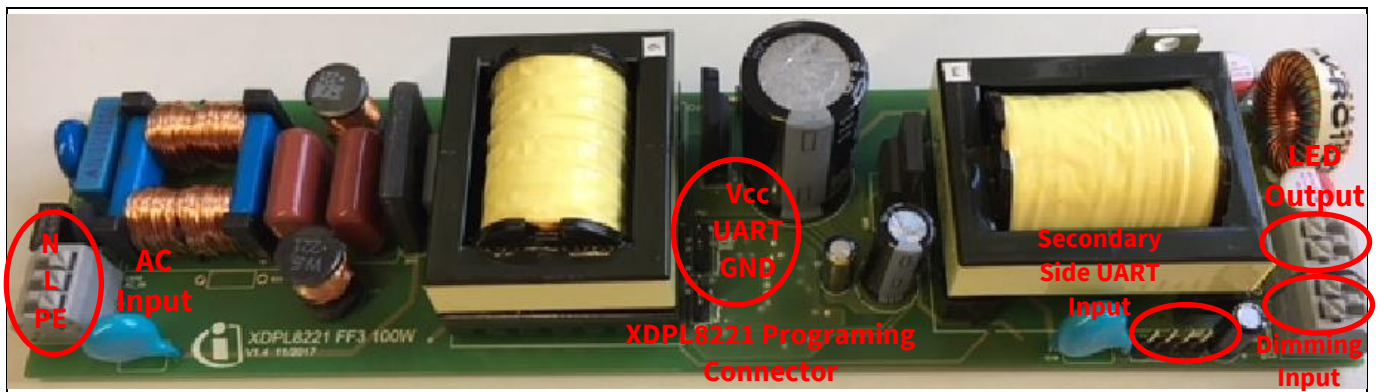

Figure 1 XDPL8221 100 W Reference board
*Note: The 100 W reference design is ready for evaluation without the need of any pre-programming by the user as the XDPL8221 chip on PCB has already been burned with the default full set of working parameters configuration. Please connect the AC Input, LED output and dimming input as shown in **Figure 1**, for the test setup. Once the IC controller XDPL8221 on the referene board is changed to a new one, the 100 W reference board parameters must be burned again because the default parameters in XDPL8221 are for 50 W reference board.*